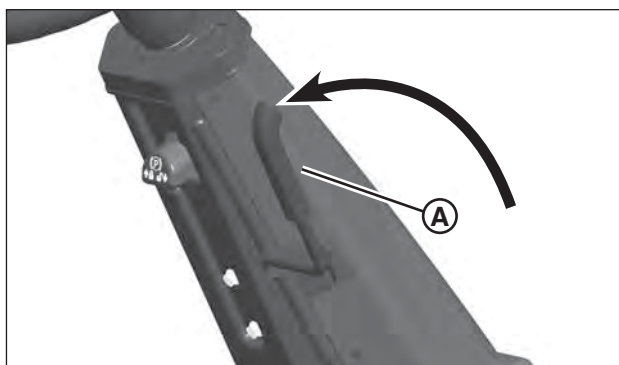

Figure 8: Engaging the blade control
2. Move the blade control (A, Figure 8) to the ON position.